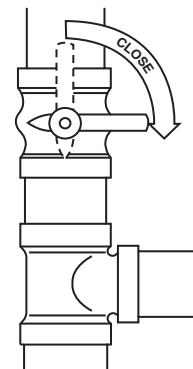

Fig. 16 - Close the External Manual Valve
2. Close the external manual gas valve. See Fig. 16.